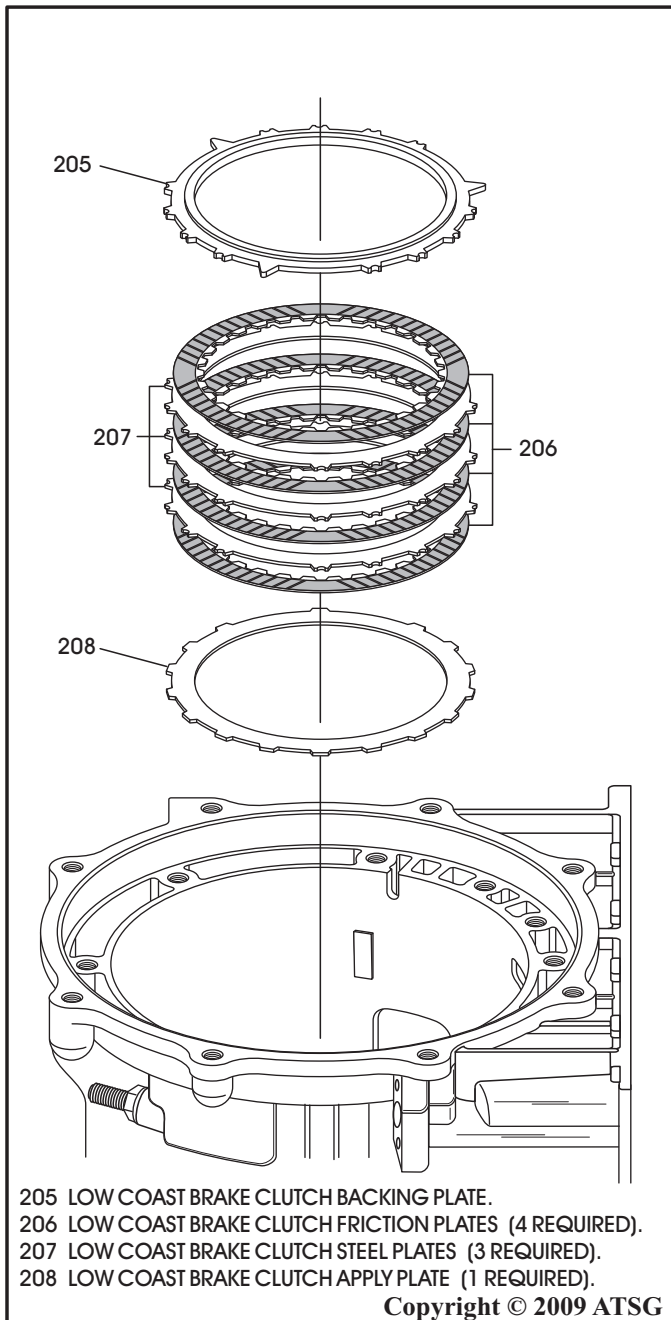

Figure 67
70. Remove low coast brake clutch backing plate, friction and steel plates, and the apply plate, as shown in Figure 67.